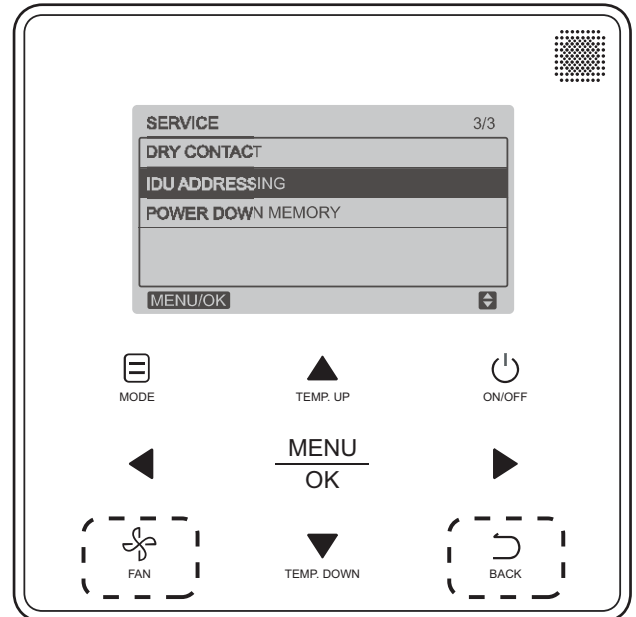

Fig. 36 —Programmable Controller (40VM900003) IDU Addressing Menu
1. Press **FAN** and **BACK** simultaneously for 5 seconds to access parameter settings as shown in Fig. 36.